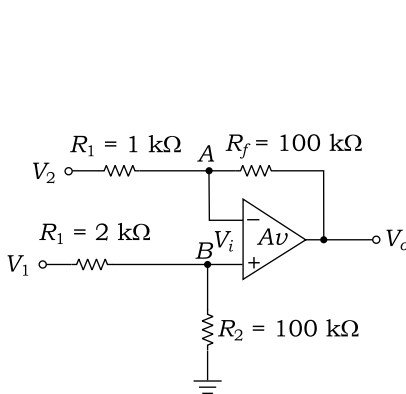

Fig. 7.105
25. Calculate the output voltage and common-mode rejection ratio (*CMRR*) of the differential amplifier as shown in Fig. 7.105. Assume $V_1 = 3 \text{ V}$ and $V_2 = 2$.